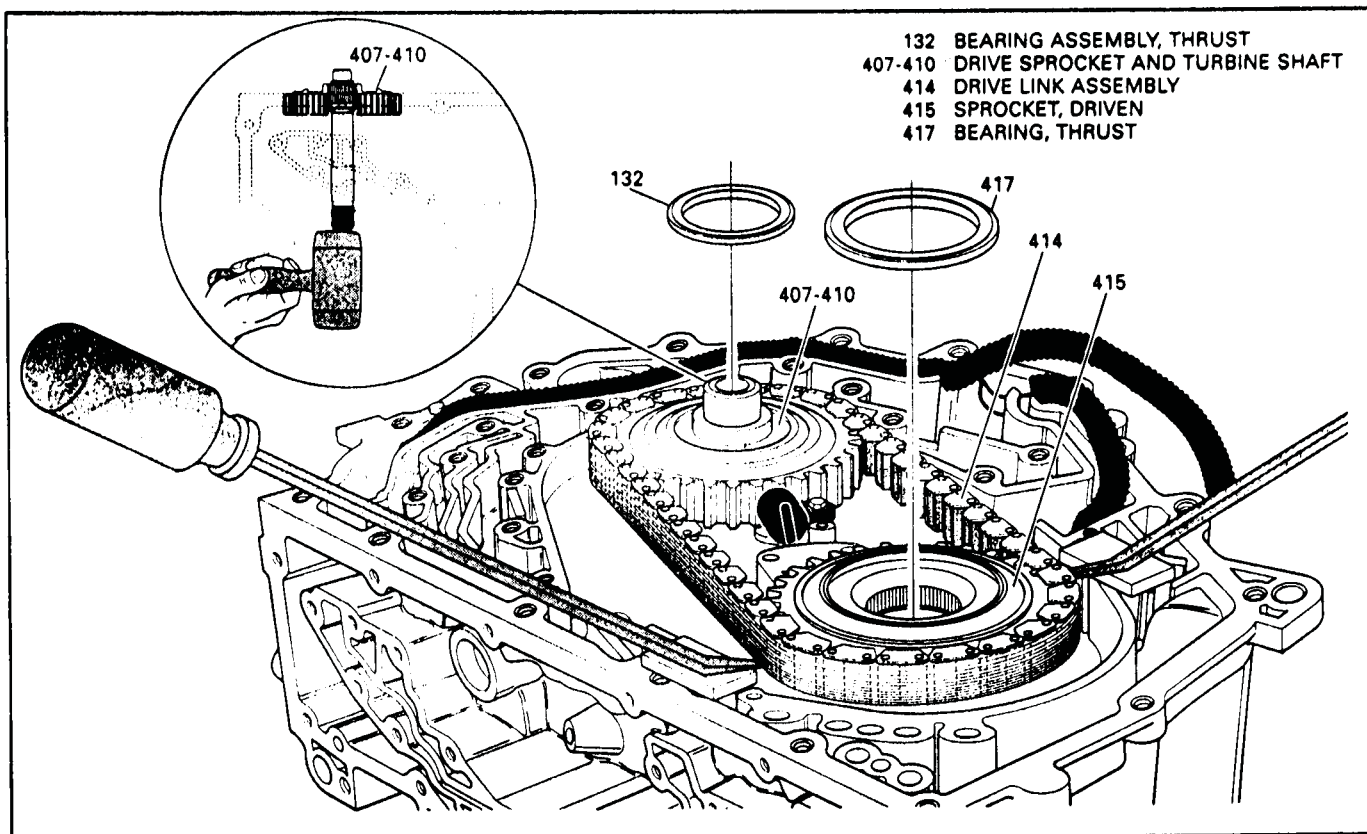

Figure 54
5. Remove thrust bearings from the drive and driven sprockets (Figure 54).
7. Pry up driven sprocket using 2 screw drivers to hold in place, then tap drive sprocket and turbine shaft off using a plastic mallet (Figure 54).